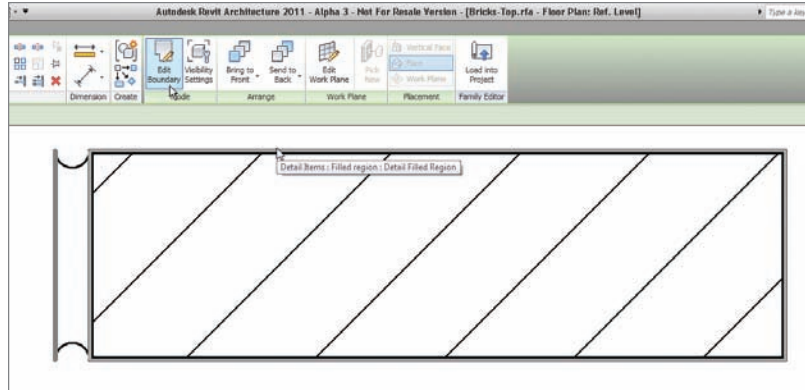

FIGURE 12.17 Click the Edit Boundary button on the Mode panel after selecting the filled region.
1. Select one of the heavy lines that comprise the outline of the brick, as shown in Figure 12.17. Revit will indicate that this is a filled region,
2. On the Mode panel of the Modify | Detail Items tab, click the Edit Boundary button, as shown in Figure 12.17.